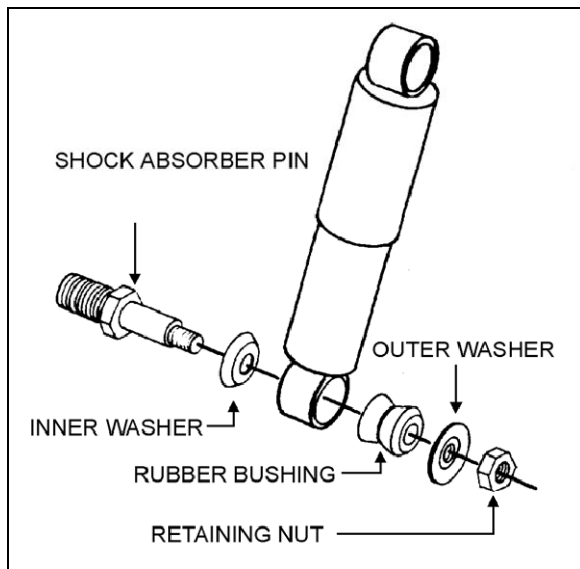

FIGURE 44: SHOCK ABSORBER
1. Remove nuts and washers from shock absorbers on upper and lower mounting pins, taking care to identify the inner and outer washers to ease reinstallation. Refer to figure 44 for details.
3. Place the inner washers (with washer convex side facing the shock absorber rubber bushing) on each shock absorber pin (Fig. 44).